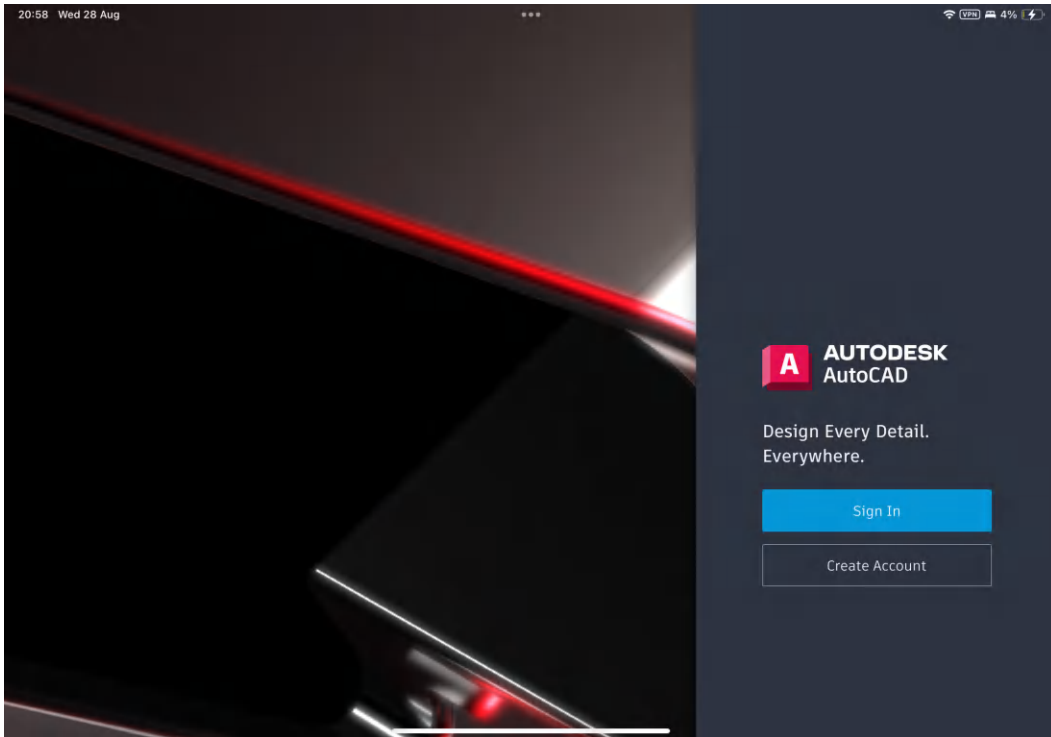

Figure 15.19: The AutoCAD mobile application login screen
1. Like AutoCAD Web, you must log in to the AutoCAD mobile application using your Autodesk account credentials, as shown in *Figure 15.19*. You can also use the **Create Account** button to create a new Autodesk account should it be needed.